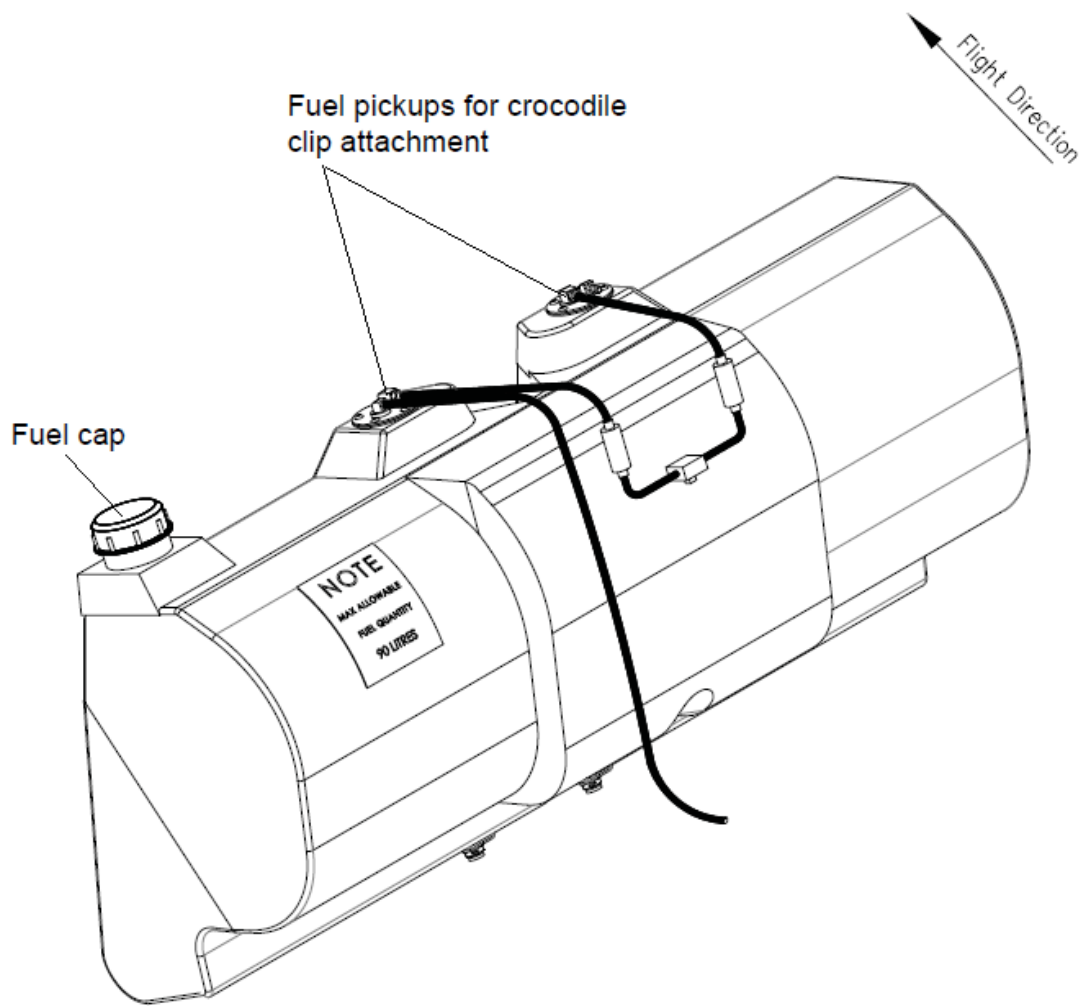

Figure 2.6.1.1: Fuel tank
4. Open the door on the captain's side and access the fuel tank through the cockpit. Clip the other end of the jumper cable on to the top of one of the fuel tank pickups (refer to figure 2.6.1.1).